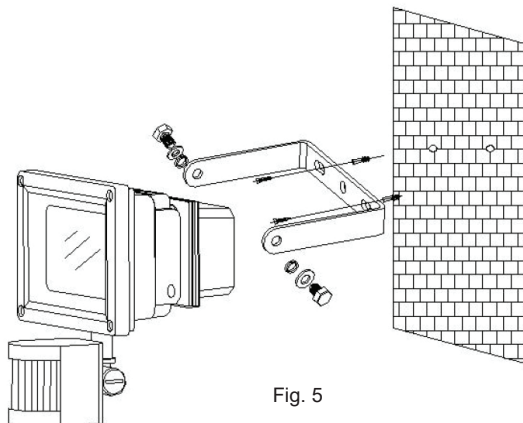

Fig. 5
(3) Connect the power cords.
(4) Re-attach the floodlight to the bracket and secure the cable to the wall using suitable clips. Ensure that the cable is not touching the body of the floodlight, and that there is sufficient slack in the cable to allow the floodlight to be tilted and adjusted as required, which should be done by grasping the metal body of the floodlight, not its rear wiring box (fig. 5).